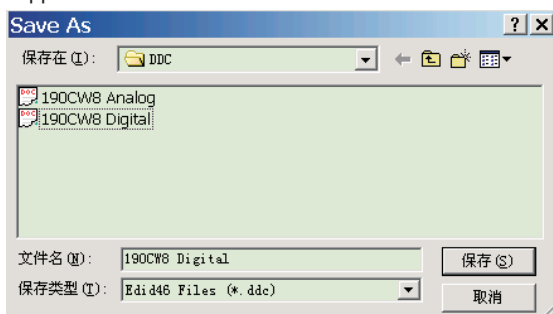

Fig.41
1. Click  (Save) icon (or click "file"-> "save as") from the tool bar and give a file name as shown in Fig. 41.